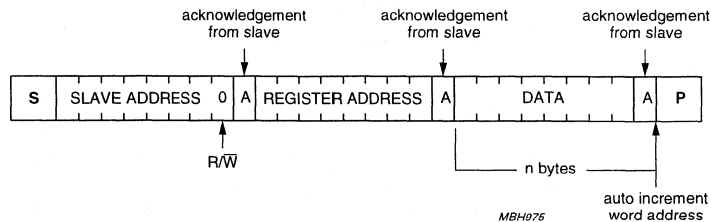

Fig.14 I²C-bus write sequence.
The I²C protocol is shown in Figs 14 and 15. Two different sequences are considered, the WRITE sequence and the READ sequence. Both sequences are initiated with a START condition (S) from the I²C-bus master which is followed by the PCD3316 slave address with the read bit cleared. The first byte after the I²C address is interpreted as the address of a PCD3316 register.